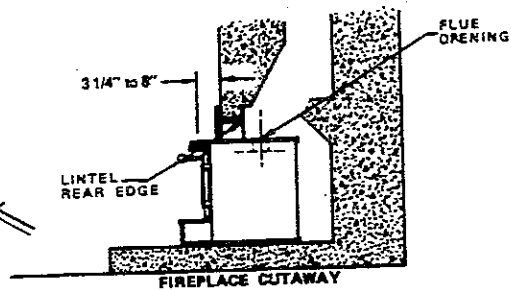

Fig. 13
### IMPORTANT: (Fig. 13)
After the fireplace hearth has been leveled, the Fireplace Insert should be slid into position. Carefully check to see that the flue opening in the Fireplace Insert is unobstructed and that the smoke leaving the Insert can rise directly into the fireplace chimney. (See Fig. 13).
1. Slide the Fireplace Insert into the fireplace to the depth desired within the limits of installation. (See Fig. 13).